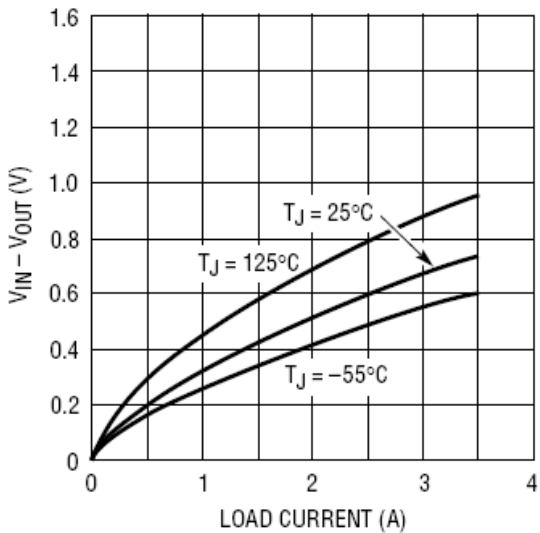

FIGURE 3 – RH1185 DROPOUT VOLTAGE TYPICAL CURVE
4. Dropout voltage is tested by reducing input voltage until the output drops 1% below its nominal value. Tests are done at 0.5A and 3A. The power transistor looks basically like a pure resistance in this range so that minimum differential at any intermediate current can be calculated by interpolation; $V_{DROPOUT} = 0.25V + (0.25\Omega \times I_{OUT})$. For load current less than 0.5A, see Figure 3.